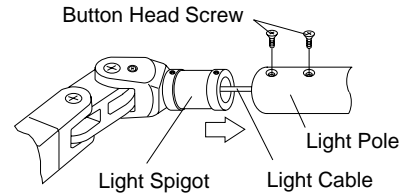

Fig.3-8-1 Fixing Light to Light Pole
(1) Pass the light cable through the light pole and insert the light spigot into the light post, and fix it with two button head screws (M6-20) . (Fig.3-8-1)